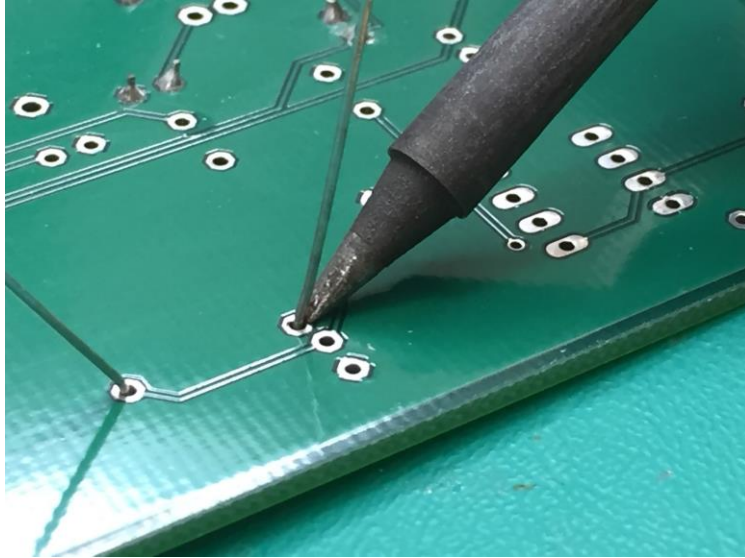
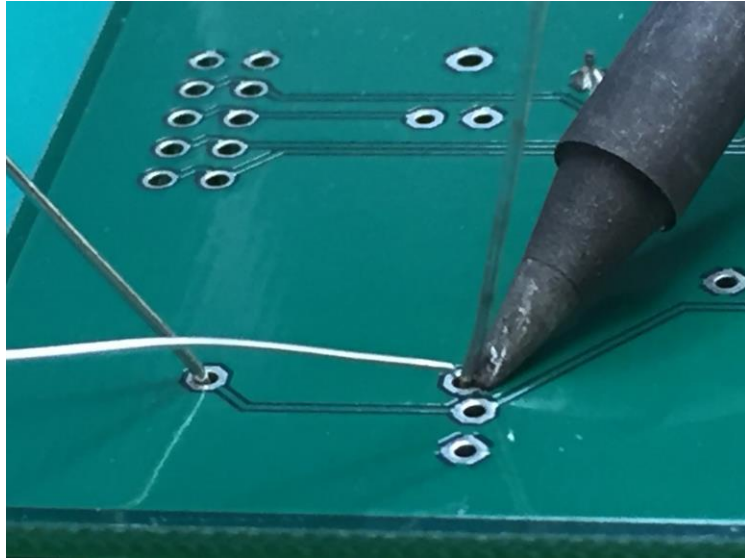
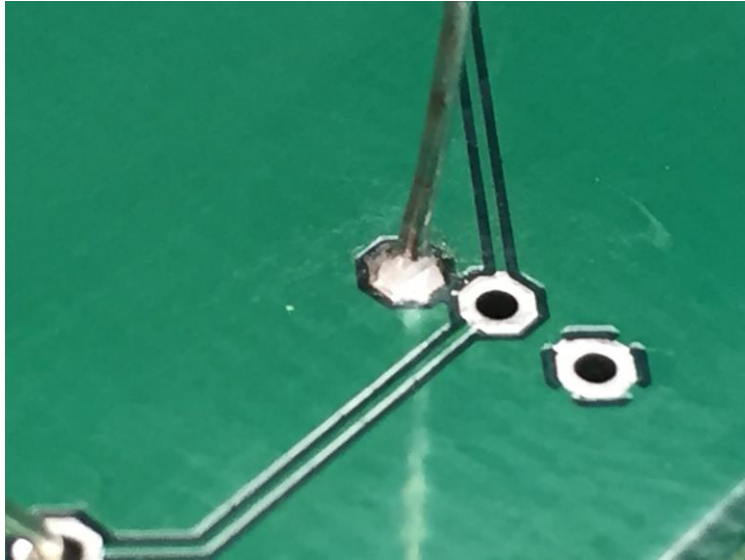

Figure 8.
Figure 9.
Figure 10.
- c. If necessary, make sure the PCB is mounted in vise clamps or a similar device such that the other side of the board is facing you (remember, you'll probably want to solder the through hole part from underneath the board where the wire leads will stick out, as shown in Figure 8.)
- e. Touch the joint between the pad and wire with the iron for about 1-2 seconds (Figure 8), then begin feeding the solder into the joint (Figure 9.) Feed solder for about 3 seconds, take it off with the iron still on, and wait for an additional 2-3 seconds for the flux to completely evaporate. The result should look conical and smooth (refer to soldering poster behind soldering station) (Figure 10.)